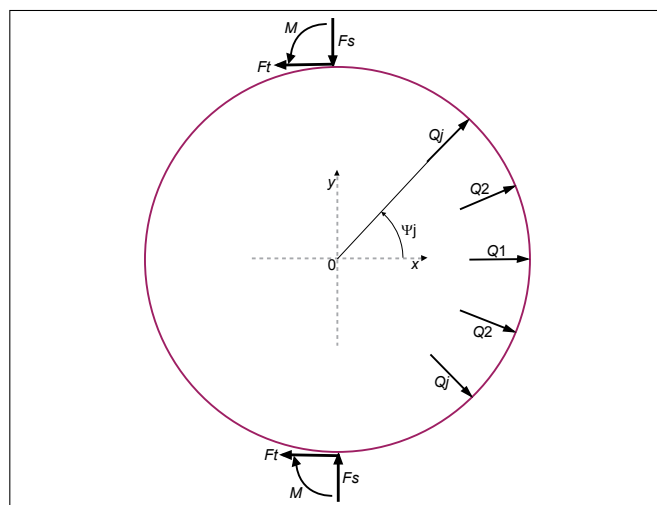

Figure 3—Forces acting on the planet gear outer ring.
These loads can be decomposed into elementary radial (F_s) and tangential (F_t) forces, and a moment (M) acting on the elastic ring mean radius R . The rollers are assumed to be equally spaced around the outer ring, with the first roller located along the O-x axis defined in Figure 3. The position of the roller number j is characterized by an angle ψ_j and the reaction force of this roller on the outer ring is noted Q_j . In summary, the planet gear outer ring is submitted to mesh forces F_s , F_t , M and roller contact loads Q_j .